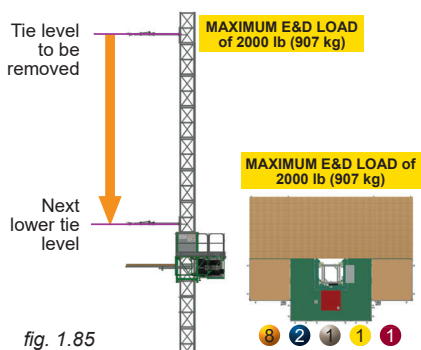
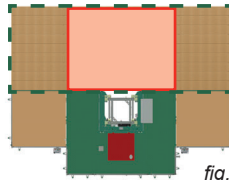

fig. 1.85
fig. 1.92
- 3- Install planks to cover the area in front of the mast (fig. 1.92).
- 5- Make sure to **remove the planks from the area in front of the mast** (fig. 1.92). Make sure that the outriggers clear all obstacles. Lower the motorized unit to the next lower tie level (as shown in fig. 1.85, p. 38).